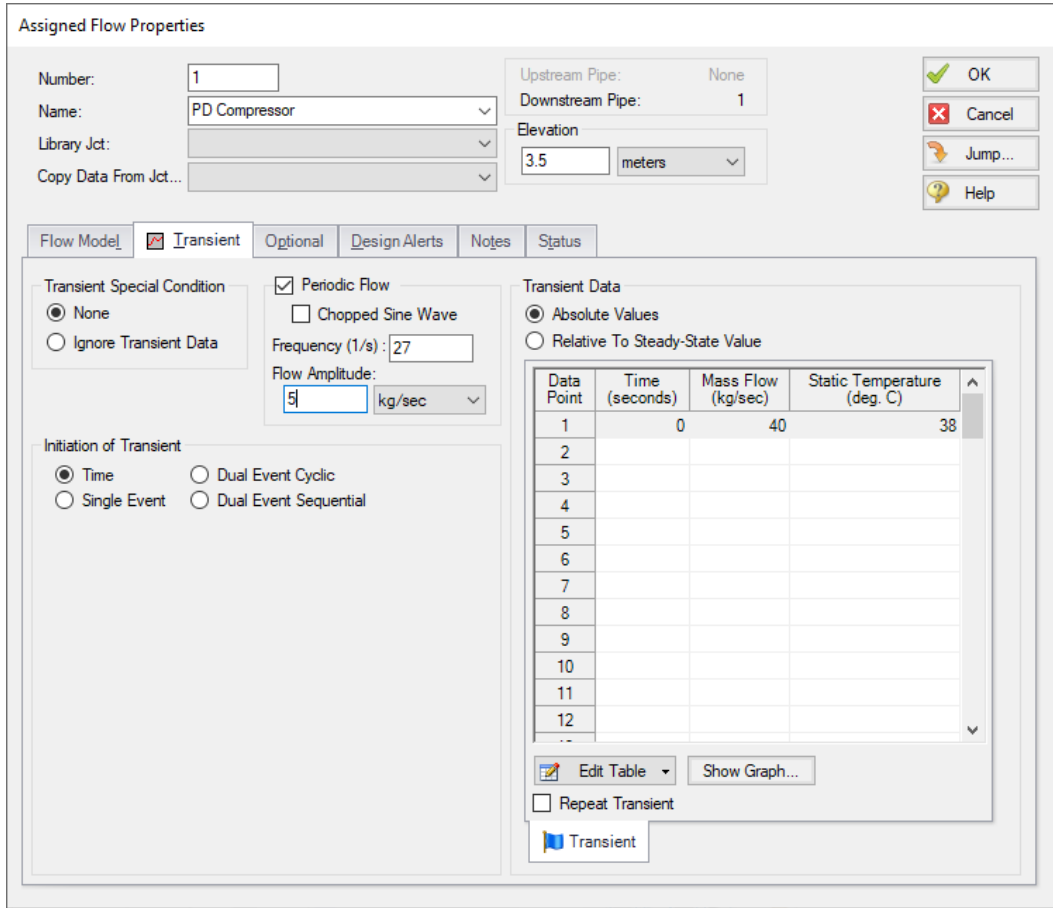

Figure 6.6 Assigned Flow Properties window with Periodic Flow transient applied
7. Check the box next to Periodic Flow. Define the Frequency as 27 1/s and the Flow Amplitude as 5 kg/sec (Figure 6.6).